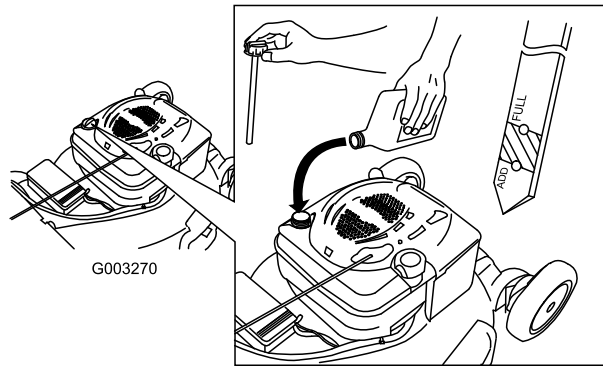

Figure 42
4. **Slowly** pour oil into the oil fill tube until the oil level reaches the Full line on the dipstick (Figure 42). **Do not overfill.** (Max. fill: 20 oz. (0.59 l), type: SAE 30W detergent oil with an API service classification of SF, SG, SH, SJ, SL, or higher.)